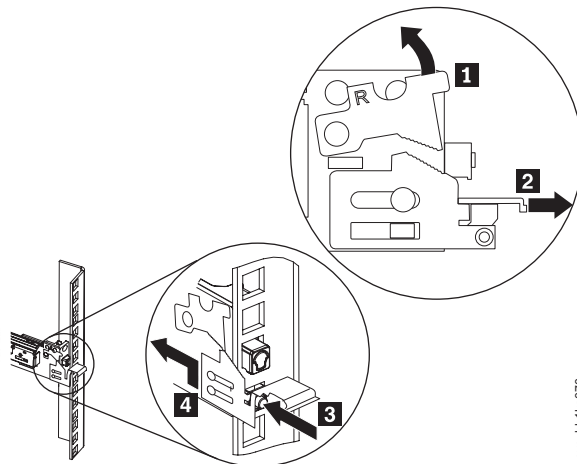

Figure 47. Removing the SAN Volume Controller 2145-CF8 slide rails from the rack
- a. To remove the slide rails from the front of the rack, push up the front tab (**1** in Figure 47) and slide out the front latch **2** .